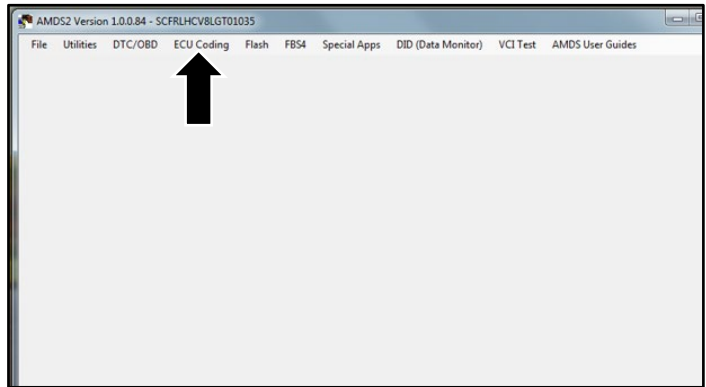

Figure 18
30. Select 'ECU Coding'. (Refer to Figure 18).